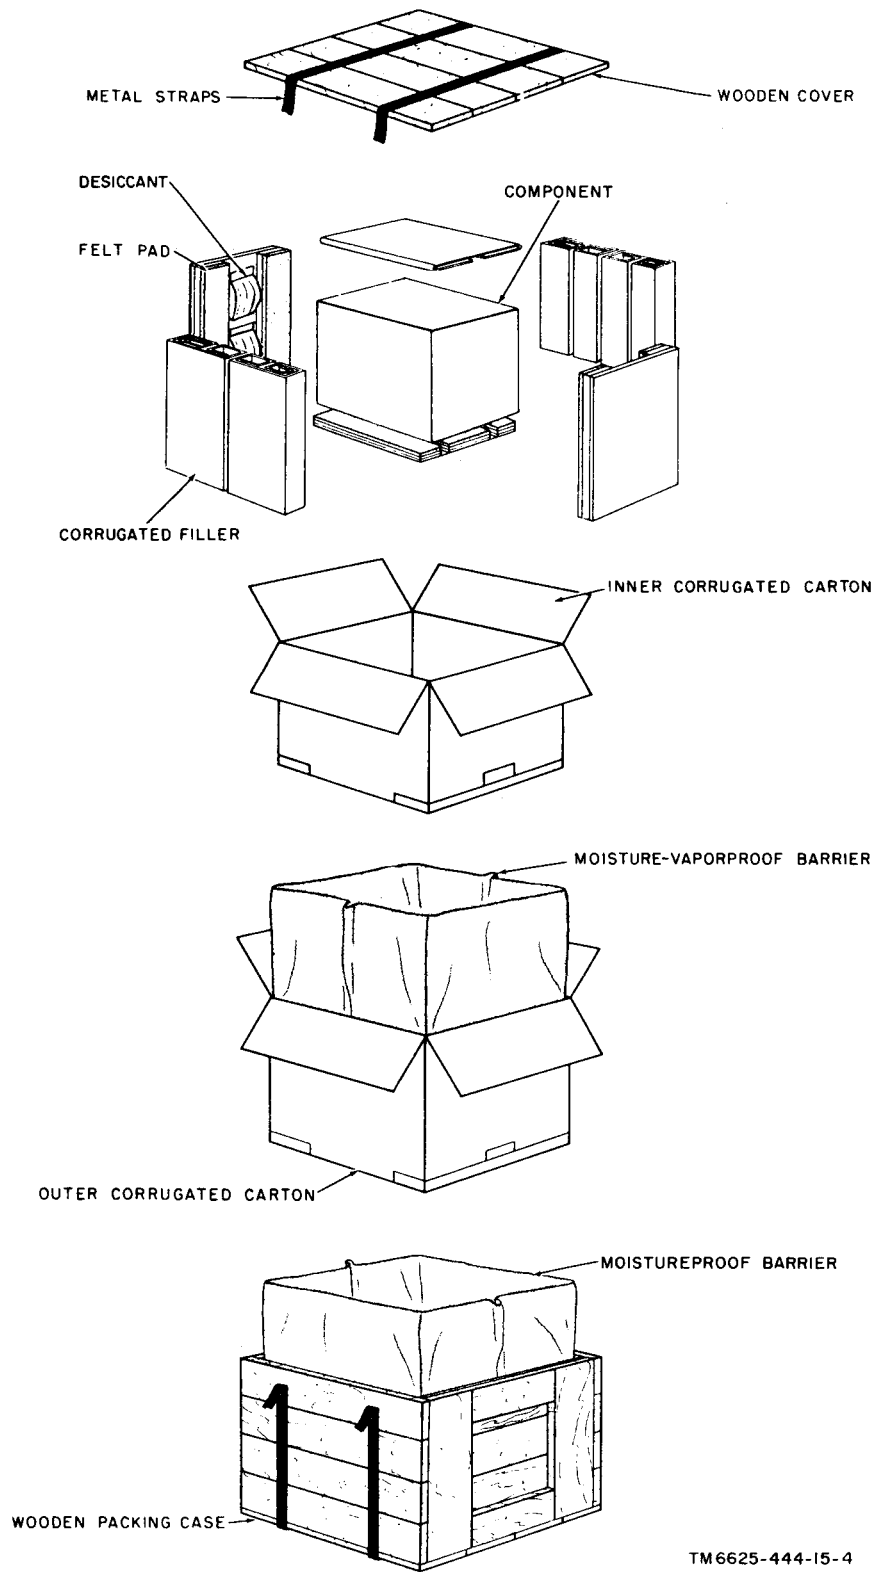
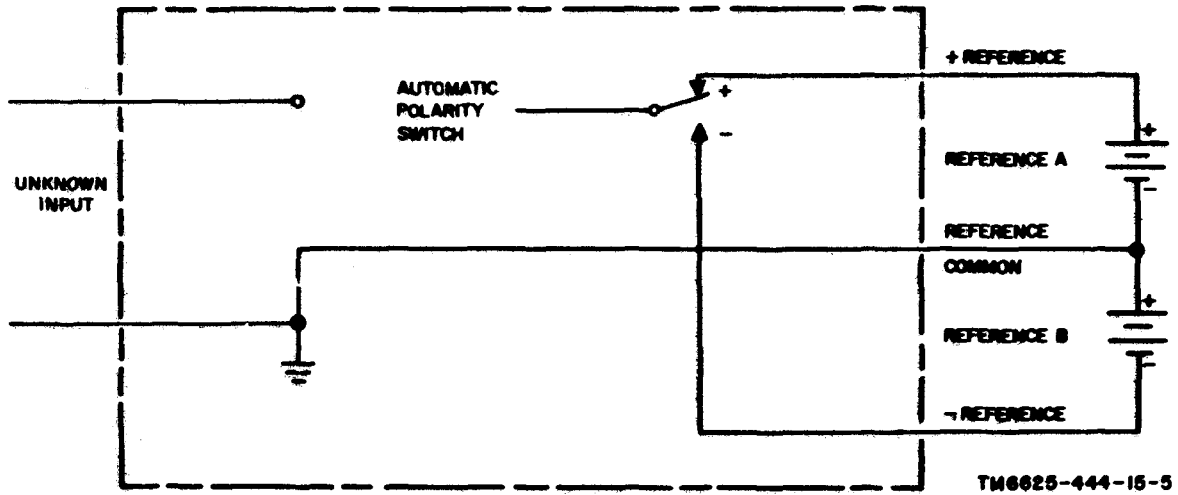

Figure 2-1. Typical packaging.
Figure 2-2. External reference supply connection to measure positive and negative input voltages.
a. Packaging Data. When packed for shipment, Digital Voltmeter AN/GSM-64 is placed in a two-piece styrofoam protector and packed in a corrugated shipping box. A typical shipping box and its contents are shown in figure 2-1.
- (1) Open the end of the shipping box.
- (2) Stand the shipping box on the floor, or bench, with the open end down.
- (3) Slide the shipping box up and away from the styrofoam protector.
- (4) Lay the styrofoam protector flat and cut and fold back the metal straps.
- (5) Remove the top half of the styrofoam protector and remove the carton which contains the technical manual and cables.
- (6) Remove the equipment wrapped in a moisture-vaporproof barrier.
- (7) Open the moisture-vaporproof barrier and remove the equipment.
- (8) If possible, save the packing materials.
external reference, the black pin is negative external reference, and the yellow pin is external reference common. To compare positive and negative signal input voltages to the external reference supply, the ratio-measuring circuits are connected as shown in figure 2-1. If the signal input voltage is of a single polarity, external reference A or B is eliminated (fig. 2-2).
If the signal input voltage is close to zero and the test setup shown in figure 2-2 is used, a battery may have to be connected in place of the eliminated reference to stabilize the digital voltmeter.